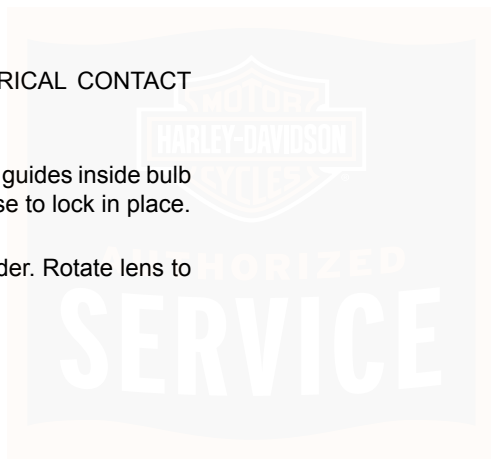

Figure 51. Lens Cap Notch
1. See Figure 51. Insert a coin or the blade of a small screwdriver into the notch at the bottom of the lens cap. Carefully twist until the lens cap pops out of the lamp housing.